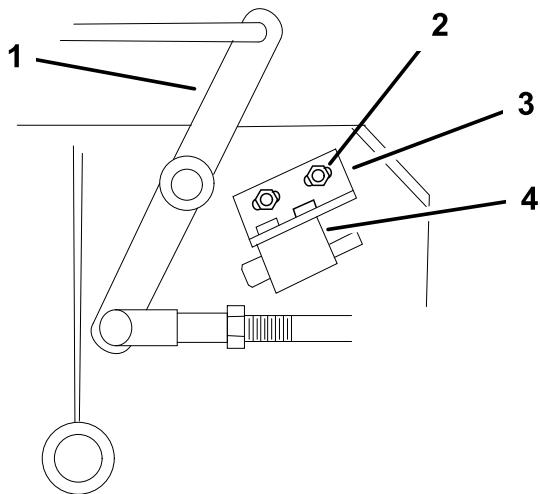

Figure 51
4. If needed, adjust the blade safety switch by loosening the bolts holding the switch bracket (Figure 51).
Note: Make sure the bellcrank **does not** touch the switch body or damage to the switch could occur (Figure 51). Tighten the switch mounting bracket.